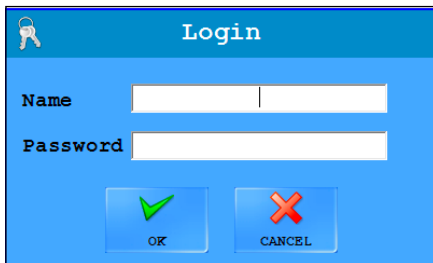

Figure 6. *The Login window*
1. After start-up, or after other user logout, the analyzer displays the **Login** window (see **Figure 6**).